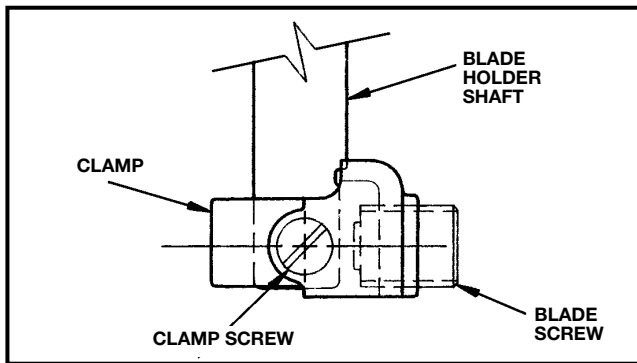

Fig. 3
1. Loosen blade screw, Fig. 3, approximately two turns. Loosen clamp screw six to eight turns and remove clamp.
NOTE: The clamp may be repositioned to accept Porter-Cable “Hook” blades by repeating steps 1 and 2 and positioning clamp as shown in Fig. 3. The clamp screw must be tightened securely when using “hook” type blades.